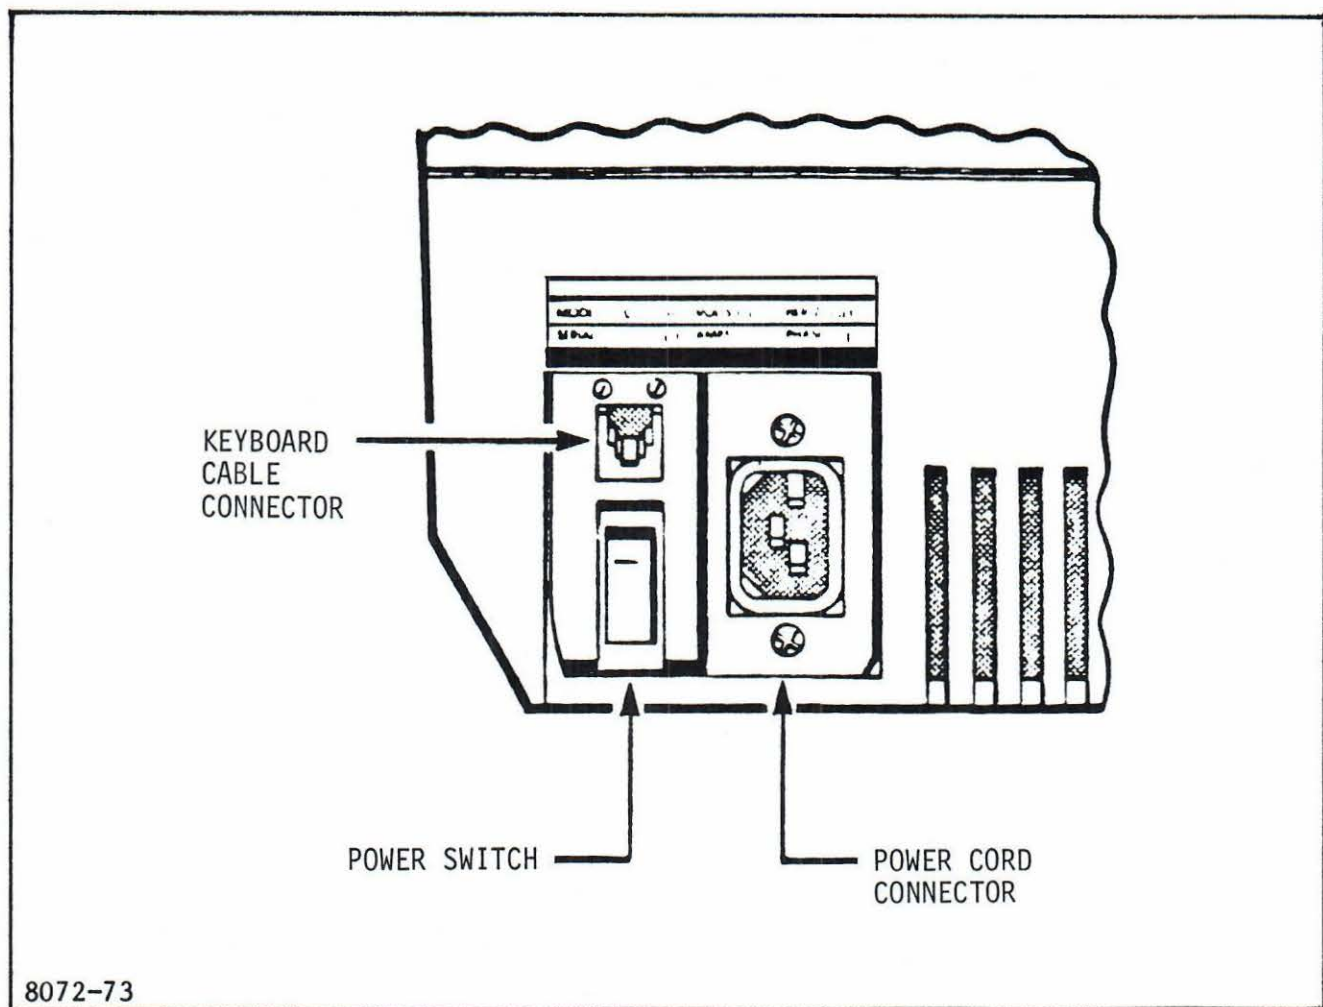

Figure 2-1. Left Rear View
4. Remove the coiled keyboard cord from the shipping bag and plug one end into the receptacle on the right side of the keyboard. Plug the other end into the keyboard cord receptacle located on the lower left-rear of the unit, as seen from behind. (See figure 2-1).
5. Remove the power cord from the shipping bag and plug the female end into the receptacle located near the lower left-rear of the unit as seen from behind (see figure 2-1.) Make sure that the power available matches the requirements of the unit (see Power Requirements.) Set the Power ON/OFF switch at the lower left-rear of the unit to OFF and plug the power cord into an outlet.